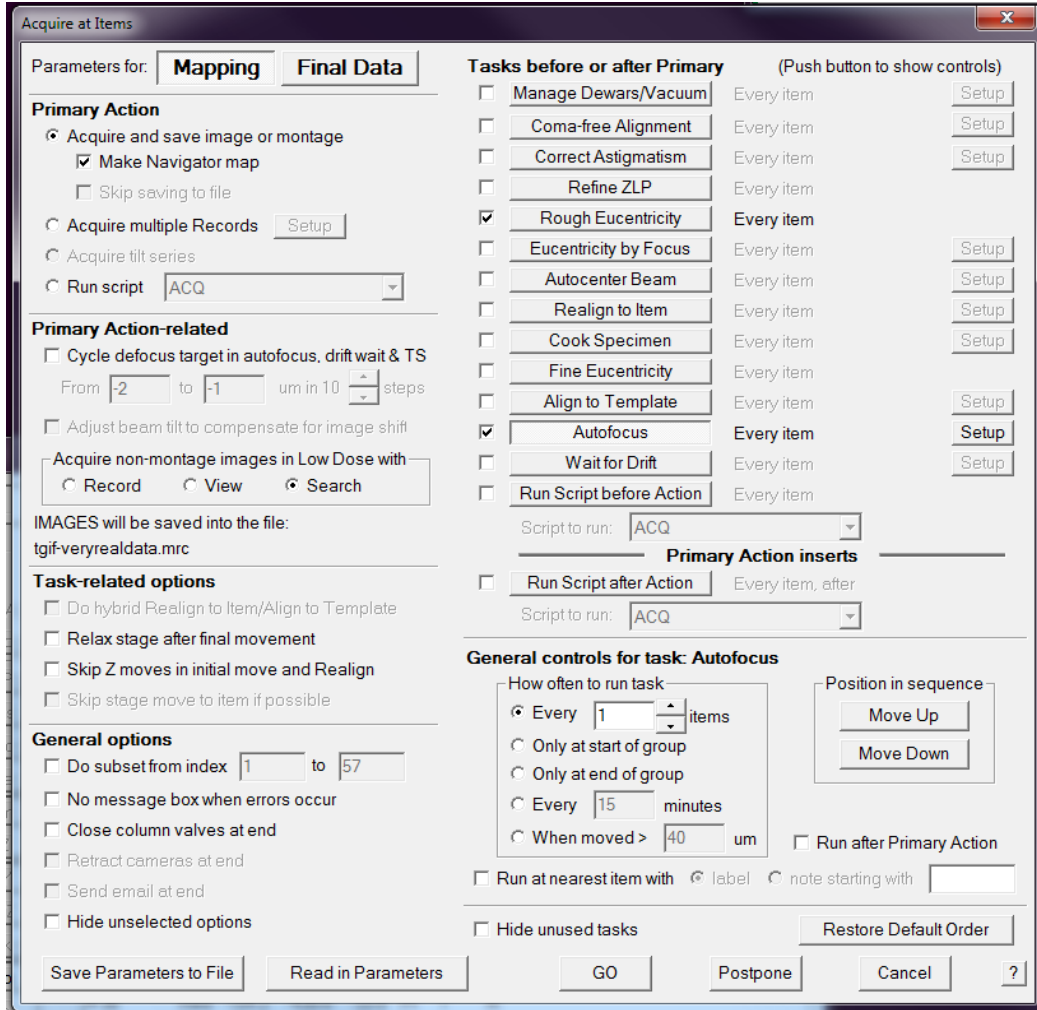

Figure 3: The Acquire at Items dialog for Mapping.
19. Make sure you are selecting the parameters for Mapping on the top left (Figure 3). You should check the following: